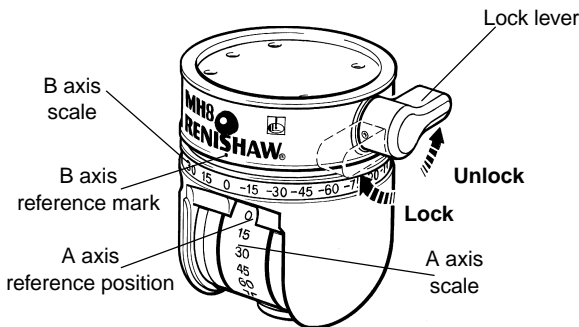

Figure 4 - Locking lever operation
- To change the orientation of the probe:- (Refer to Figure 4)